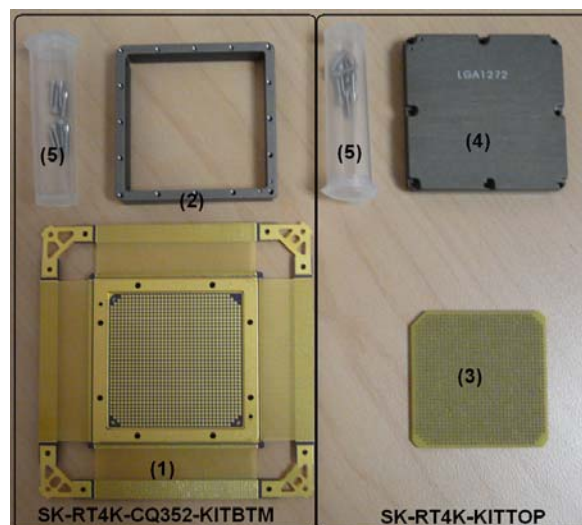

Figure 1 • Parts of CQ352 to LG1272 Adapter Socket: (1) Ceramic Adapter, (2) Socket Housing, (3) Socket Lid, (4) Socket Interposer, (5) Fixing Screws
Figure 1 shows the complete CQ352 to LG1272 assembly kit. SK-RT4K-KITTOP contains an interposer (3), a socket lid (4), and eight screws (5). SK-RT4K-CQ352-KITBTM contains a ceramic adapter (1), socket housing (2), and eight screws (5).